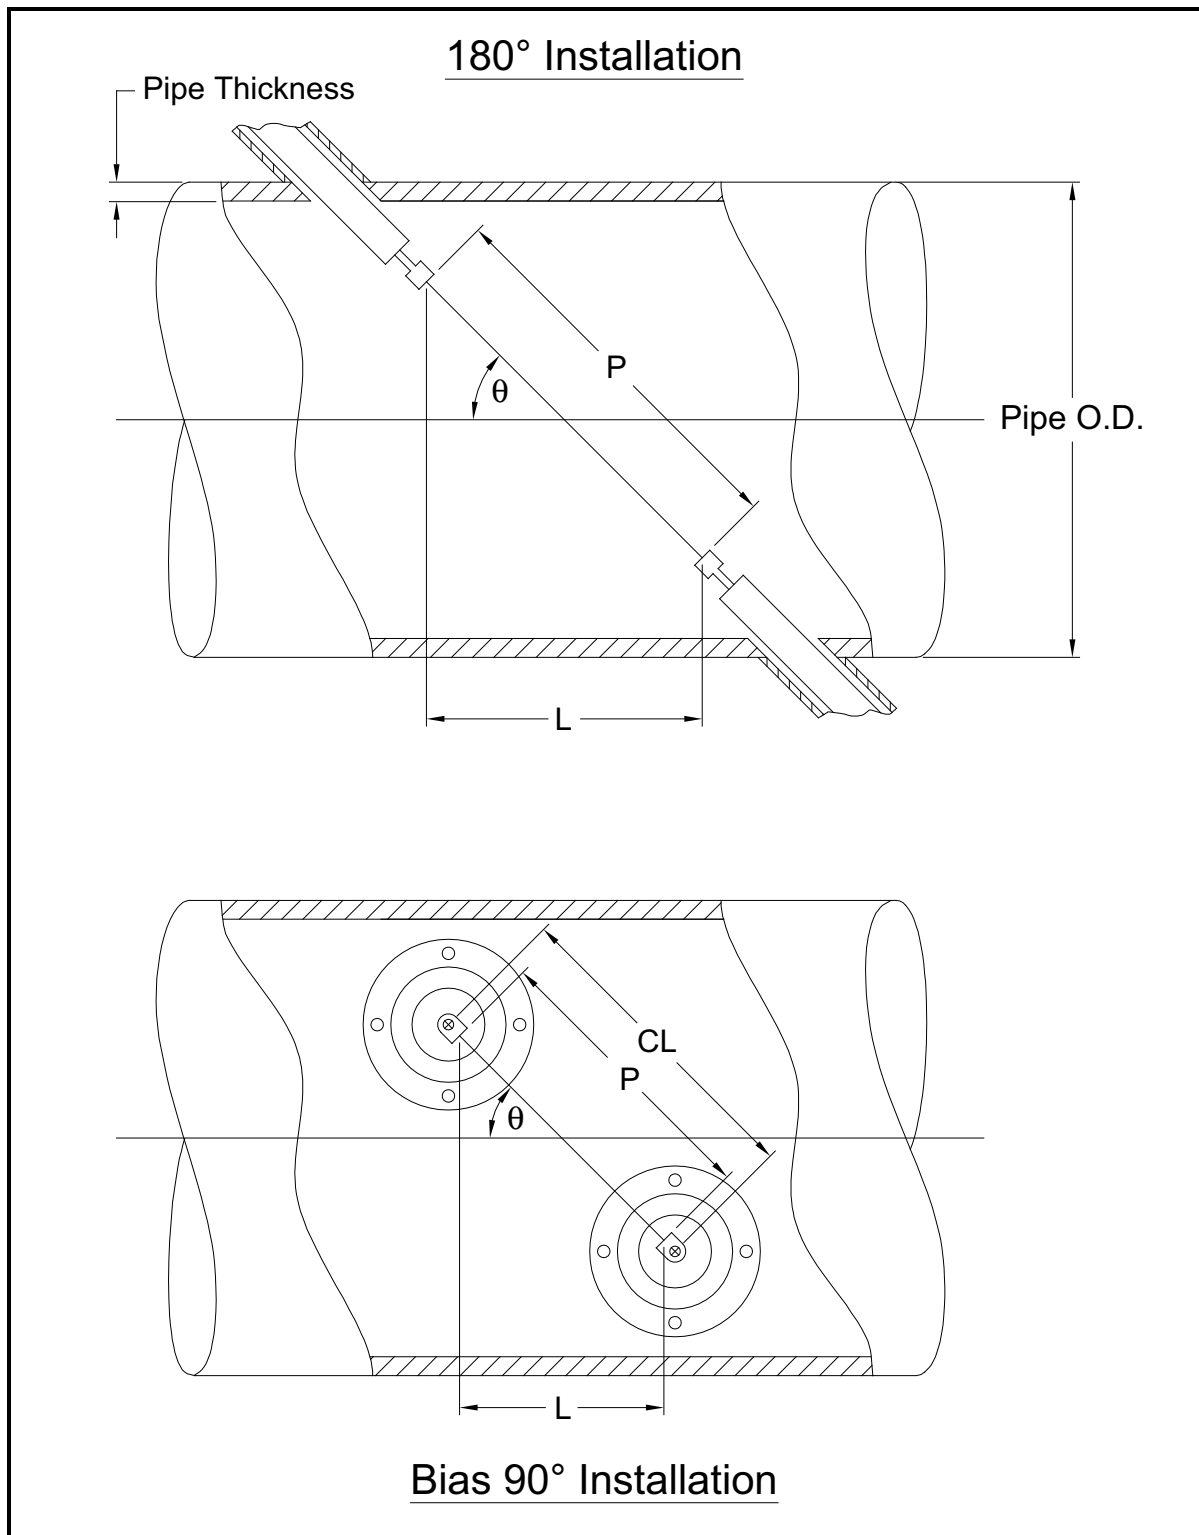

Figure 20: Top View of Typical Transducer Installations
The accuracy of the programmed P and L values is critical to precise flow rate measurements. If GE supplies the flowcell for the system, the correct values will be included in the documentation supplied with the system. For transducers installed on an existing pipe (see Figure 20 on page 68), P and L must be measured at the site. This appendix provides instructions for properly determining these dimensions.
Whenever possible, physically measure the face-to-face distance (P) and the axial distance (L) between the centers of the flat faces of the transducers. Refer to Figure 20 on page 68 for an illustration of the proper distances to measure, in a typical installation.
With a Bias 90° transducer installation, it sometimes happens that the only known parameters are the transducer angle (θ) and the centerline distance between the transducer bodies (CL). In these cases, it is still possible to calculate P and L by combining Equation C-1 with the additional Equation C-2 (see Figure 20 on page 68):